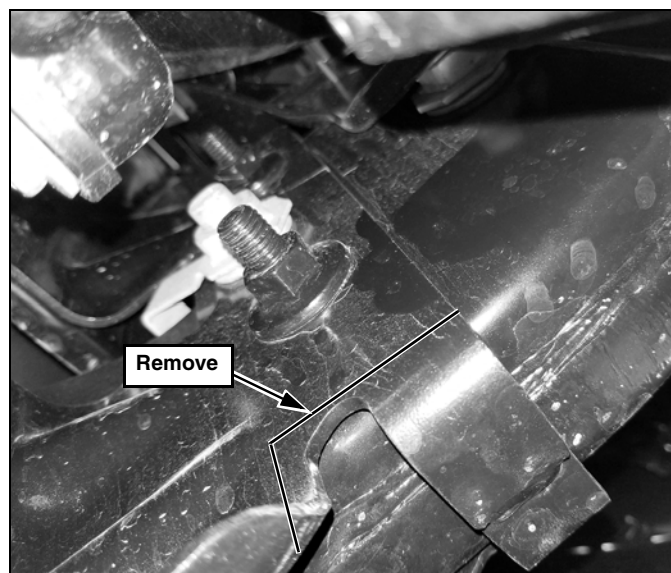

Figure 2
3. Modification by cutting the bumper bracket will be needed to fit the Mounting Weldments (#2 & 3). Cut away the bumper bracket where it interferes. (See Figure 2.) Use touch up paint to protect the exposed steel.